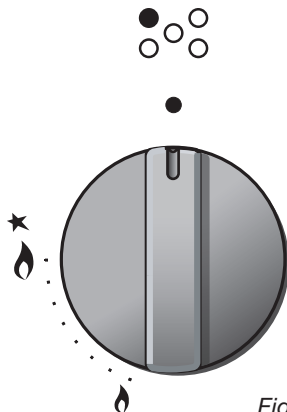

Fig. 4.3
Each hob burner is controlled by a separate gas tap operated by a control knob (fig. 4.3) which has 3 positions marked on the control panel, these are:
- 1) Press in the corresponding knob and turn counter-clockwise to the full flame position marked by the 🔥 symbol (fig. 4.3) and hold the knob in until the flame has been lit.